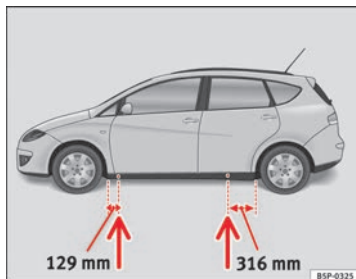

Fig. 181 Jack position points
- Locate the jacking point under the door sill closest to the wheel to be changed ⇒ Fig. 181.
Recesses at the front and rear of the door sills mark the jacking points ⇒ Fig. 181. There is only one jacking point for each wheel. Do not fit the jack anywhere else.